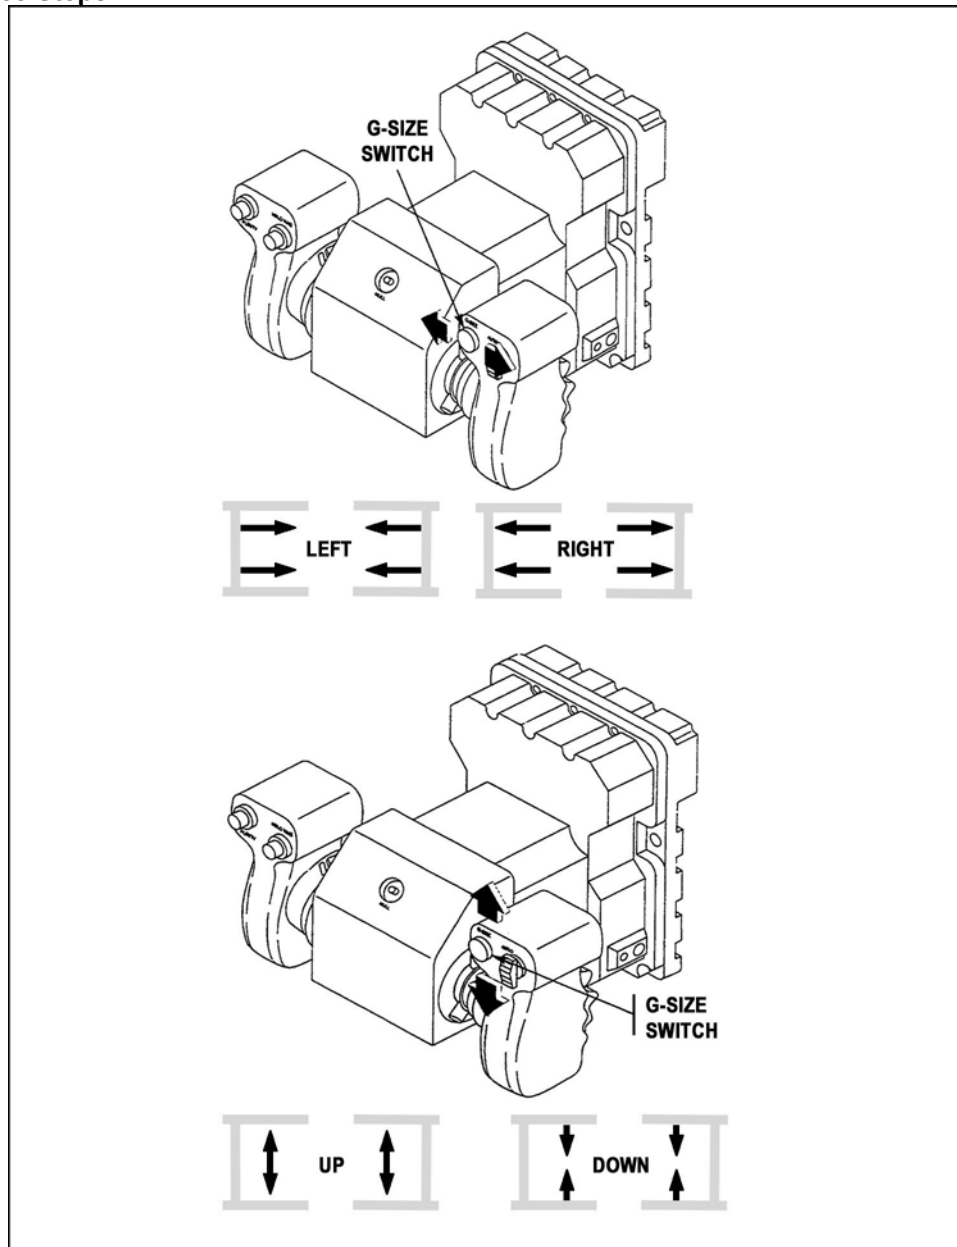

Figure 36. G-SIZE switch.
- (1) Move gate size (G-SIZE) switch on the GHS to locate alignment dot on TAS biocular display (Figure 36).